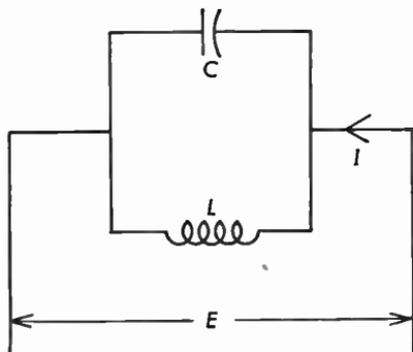

Fig. 3.16 Capacitance and inductance in parallel.
3.16 In Figure 3.16, $X_c = 5200$ ohms, $X_l = 5100$ ohms, $I = 5$ microamperes. Find the total impedance and the voltage E .